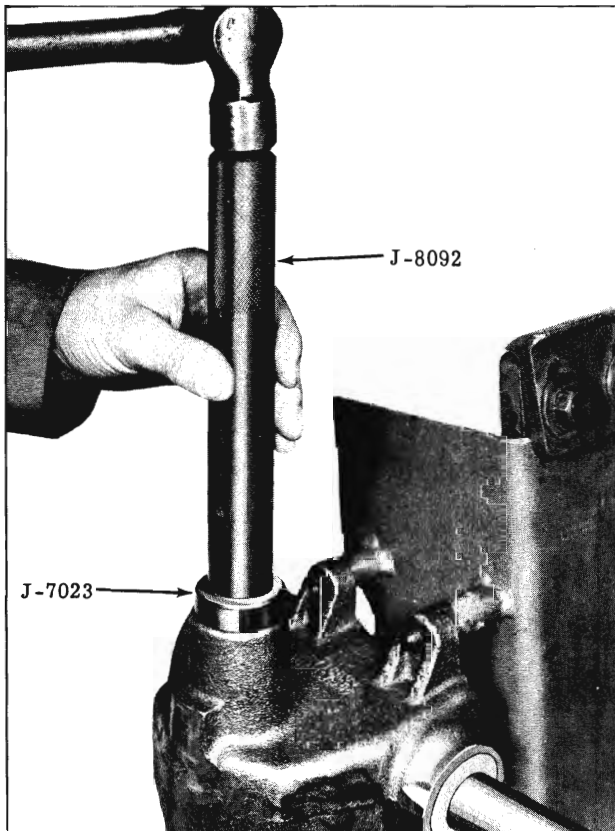

Fig. 4-15 Installing Pitman Shaft Seal
2. Place a new seal into housing with lip of seal facing inward. Drive seal in the housing until it bottoms against shoulder of counterbore, using Tool J-7023. (Fig. 4-15) Coat lip of seal with seal lubricant, Part No. 567196.